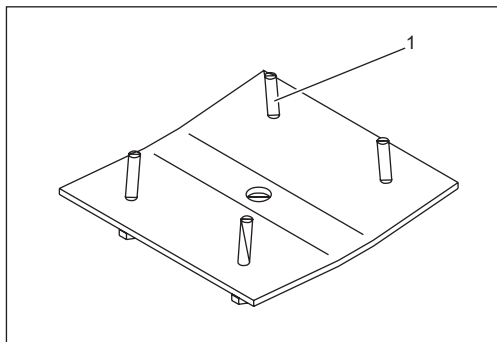

Fig. 5:
- preset adjusting screws (Fig.5/1)